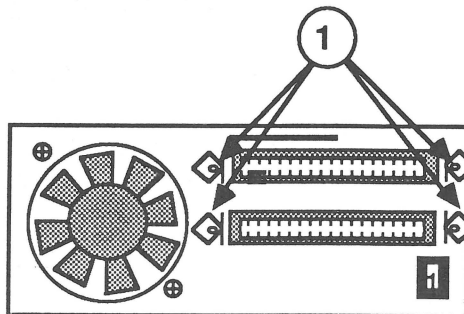

FIGURE 6
3. Remove the four screws (Figure 6, #1) that secure the SCSI cable to the frame, and lift the cable free.
2. Replace the four screws (Figure 6, #1) that secure the SCSI cable to the metal frame.